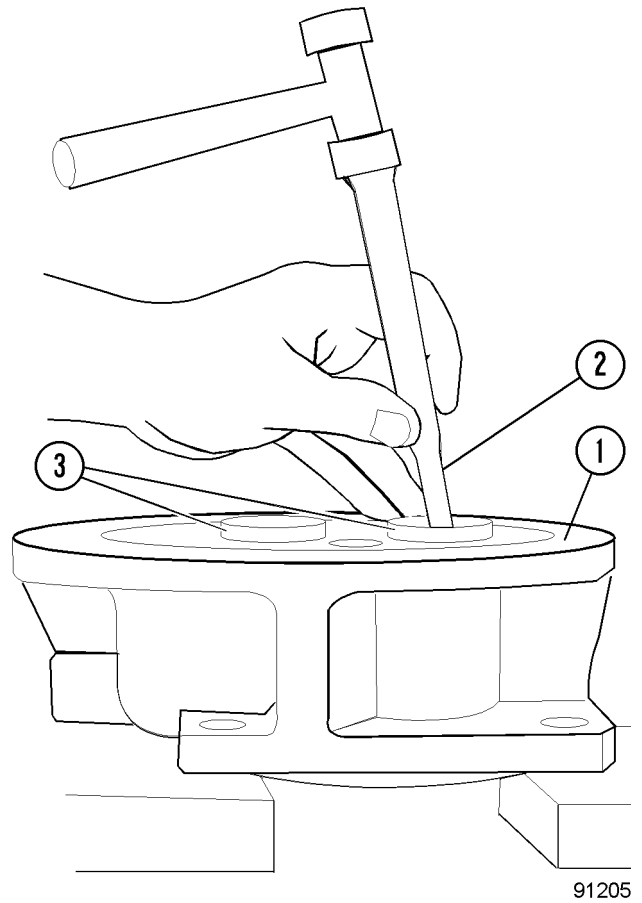

FIGURE 3-8. SHAFT SEAL REMOVAL
15. Use a punch and hammer and tap the outboard shaft seal out of the flange bore. (Refer to Figure 3-8.) Use care not to mar, scratch or damage the seal bore surface, or bearings.